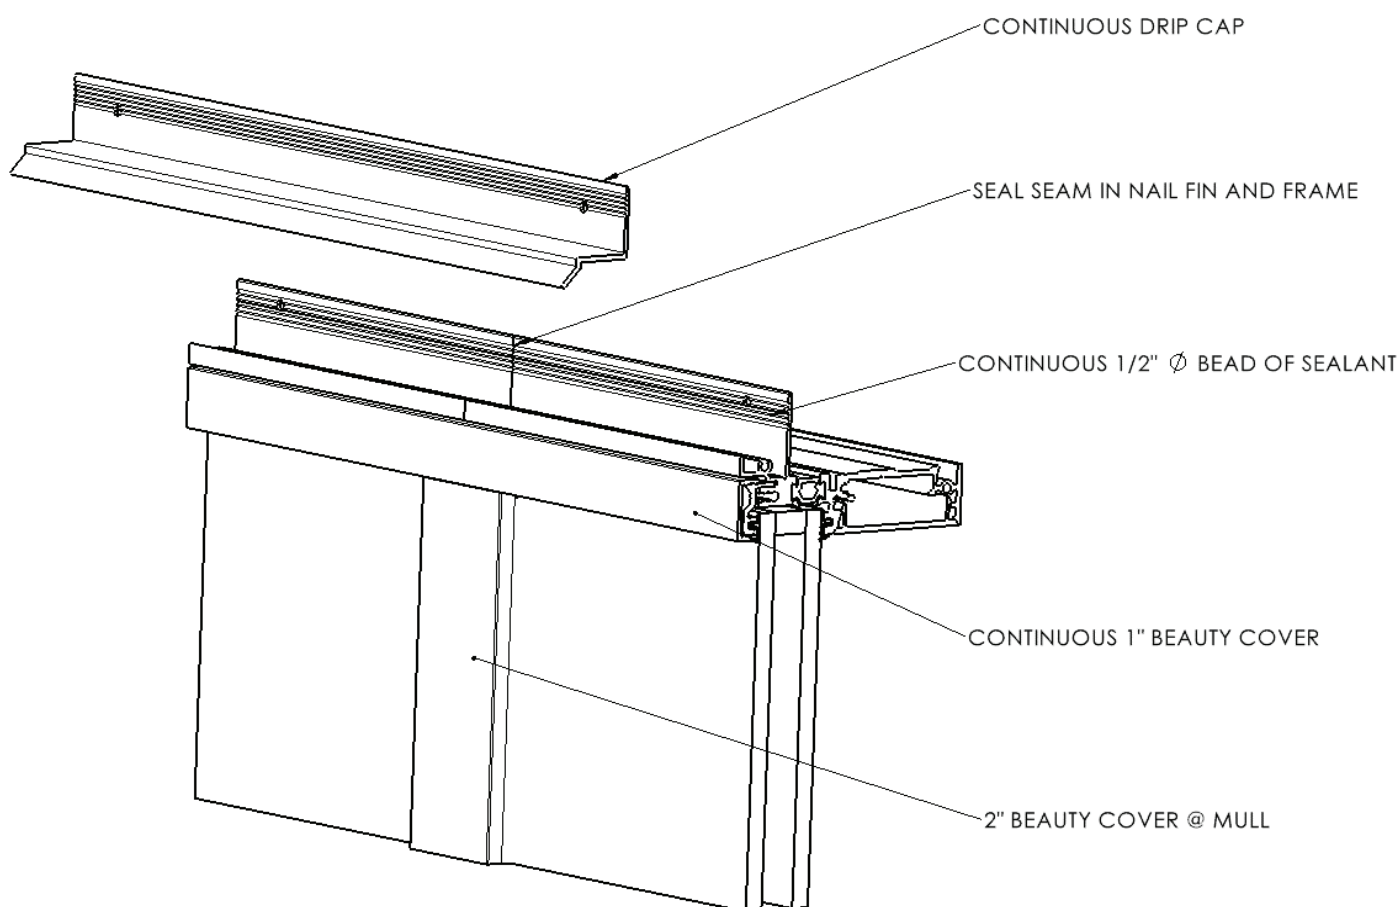

Figure 5
7. Seal and fill the seam created at the vertical mull on the exterior face of nail-fin. Tool and smooth out the sealant ensuring the joint is free of voids. See Figure 5.